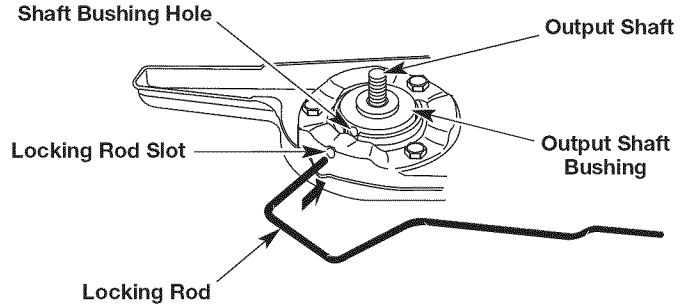

Fig. 13
- Align the shaft bushing hole with the locking rod slot (Fig. 13). Insert the locking rod into the locking rod slot and shaft bushing hole (Fig. 13).
2. Align the shaft bushing hole with the locking rod slot (Fig. 13). Insert the locking rod into the locking rod slot and shaft bushing hole (Fig. 13).